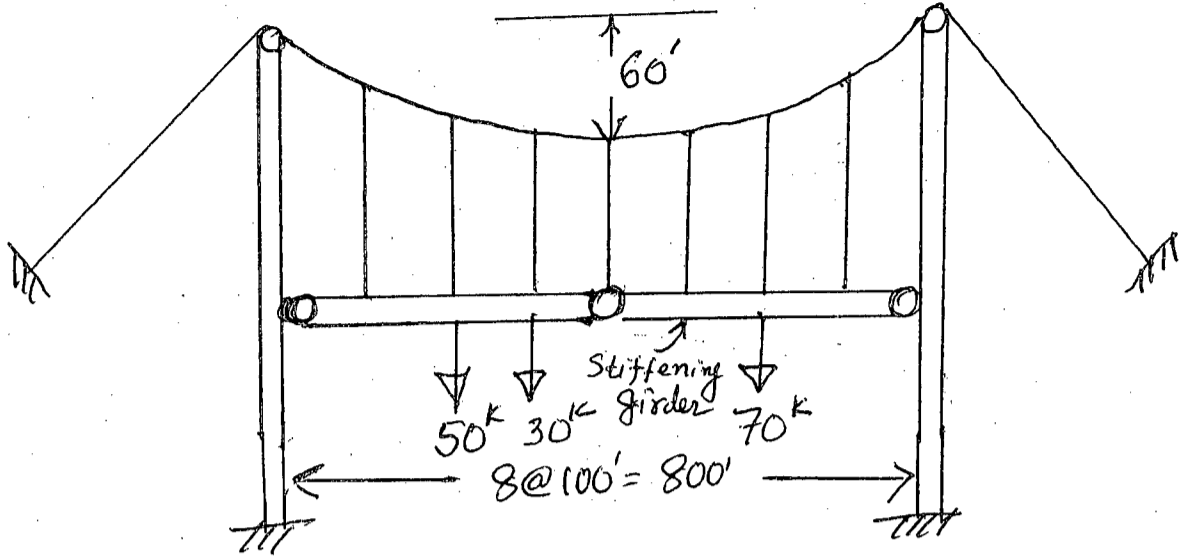

Fig. 7
8. Draw shear force and bending moment diagram for the stiffening girders of the suspension bridge shown in the Fig. 7. Also compute maximum tension in the Cable. (28)